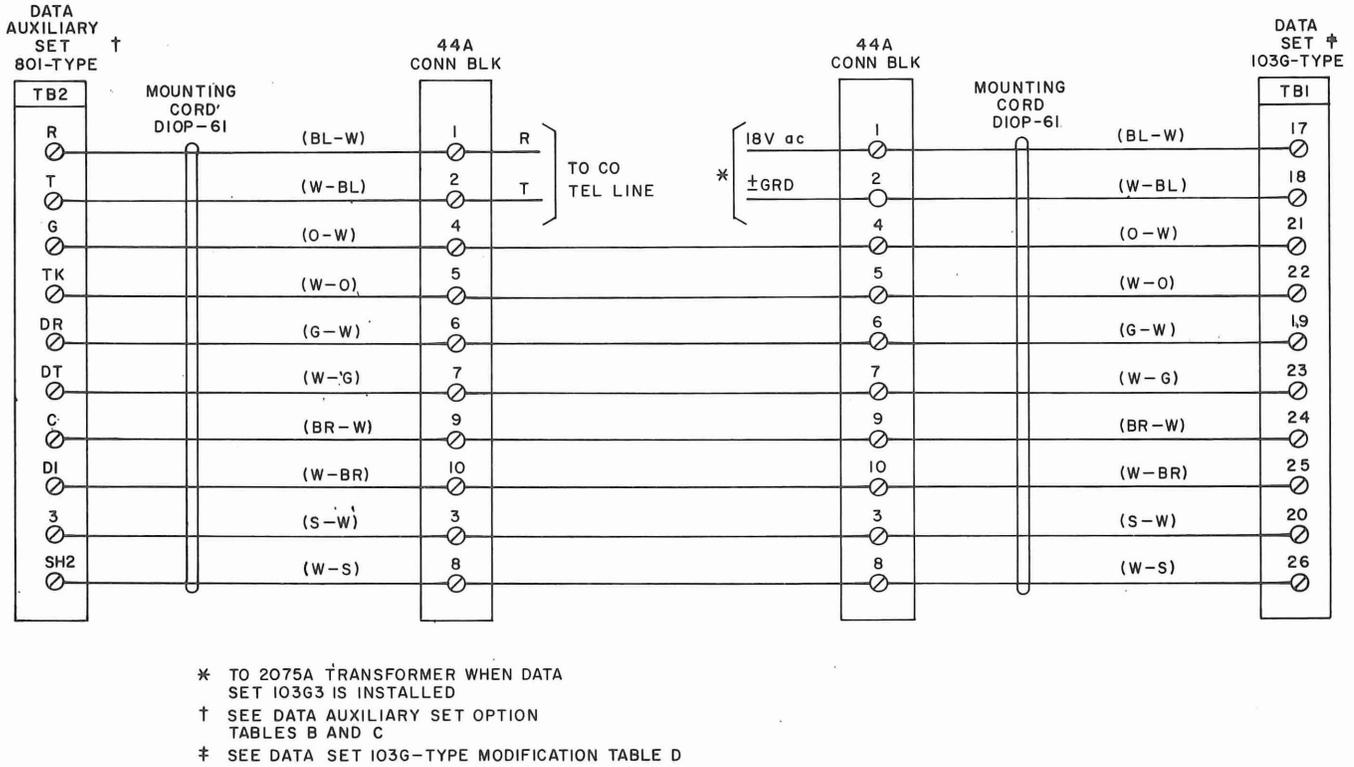

Fig. 4—Data Set 103-Type—Connections With Data Auxiliary Set 801-Type
2.07 If Data Auxiliary Set 801-type is equipped with an M14C-61 (N option) mounting cord, this cord must be removed and a D10P-61 (M option) mounting cord installed. When changing cords or if a data auxiliary set is equipped with a D10P-61 cord, ensure that the S-W mounting cord conductor is connected to terminal TB2-3 as shown in Fig. 4.
3.02 The connections for Data Set 103G-type and Data Auxiliary Set 801-type are shown in Fig. 4.